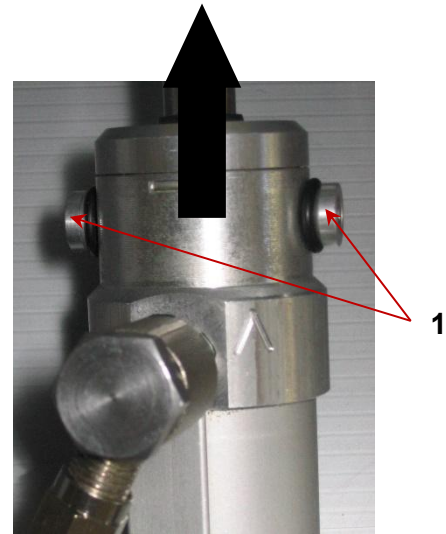

Fig. 23 Unlocking the pneumatic cylinder POAV.
Pneumatic cylinders have an internal locking that prevents the closing of a fully opened vent leaf. In order to close the skylight leaf, in an emergency situation, release the **actuator locks (1)** by lifting them in the direction of the actuator's working movement (according to the arrow in Fig. 23).